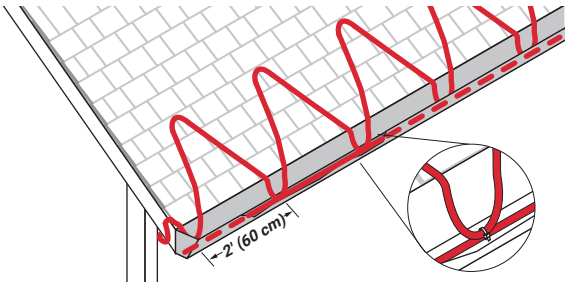

Figure 5: Layout in a zig-zag pattern
For sloped roofs, ice dams may form at the roof edge. To maintain a continuous path for melt water runoff, route the heating cable in a zig-zag pattern as shown in Figure 5 and follow the appropriate attachment recommendations in “Attachment Methods”, page 29. Additional heating cable may be needed for other gutters, downspouts, and valleys.
- Install the heating cable on the roof in a zig-zag pattern as shown in Figure 5.
Important: Attachment methods are not shown in Figure 5. For attachment methods, proceed to “Attachment Methods”, page 29.